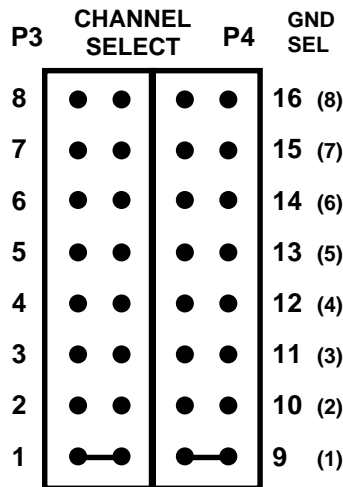

Fig. 1-2 — Channel Select Jumpers, 8-Channel A/D Boards
For 1-8 Input Channels (single-ended or differential on A/D board): When you connect the TMX32 to an A/D converter board with eight or fewer analog input channels, P3 is used to set the desired input channel, and P4 is used to set the corresponding ground for that channel. For example, if you place the jumper across the pins for channel 1 on P3 as shown in Figure 1-2, you should place the P4 jumper across the pins labeled “9 (1)” on the board, as shown. You must install both jumpers — the selected channel jumper and the corresponding ground jumper — regardless of whether you are operating in the single-ended or differential mode.